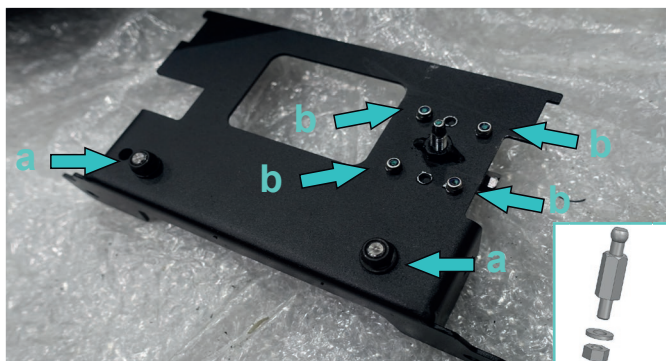

Fig.54
51. a) Install radar mounting pins (item W) to the radar bracket (item 2) using washer 6 and nut M6 (item R, J) (fig.54).
b) Fix the factory adjusting mechanism using factory screws and nuts (item K) (fig.54).